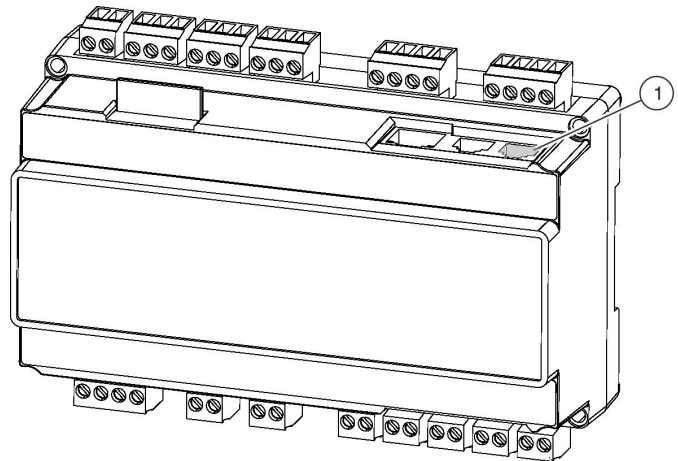

Fig. 33: Modbus RS485 interface
- ▶ Use the Modbus-RS485 interface ( Fig. 33 /1) to connect the X-CUBE control master to a remote terminal unit (RTU).